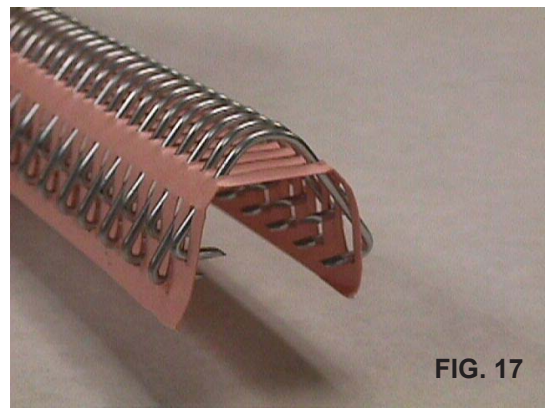

FIG. 17
6. Pull the belt straight up, out of the machine. Do not twist the belt as it is removed. If using carded hooks as shown in Figure 17, remove paper at this time.